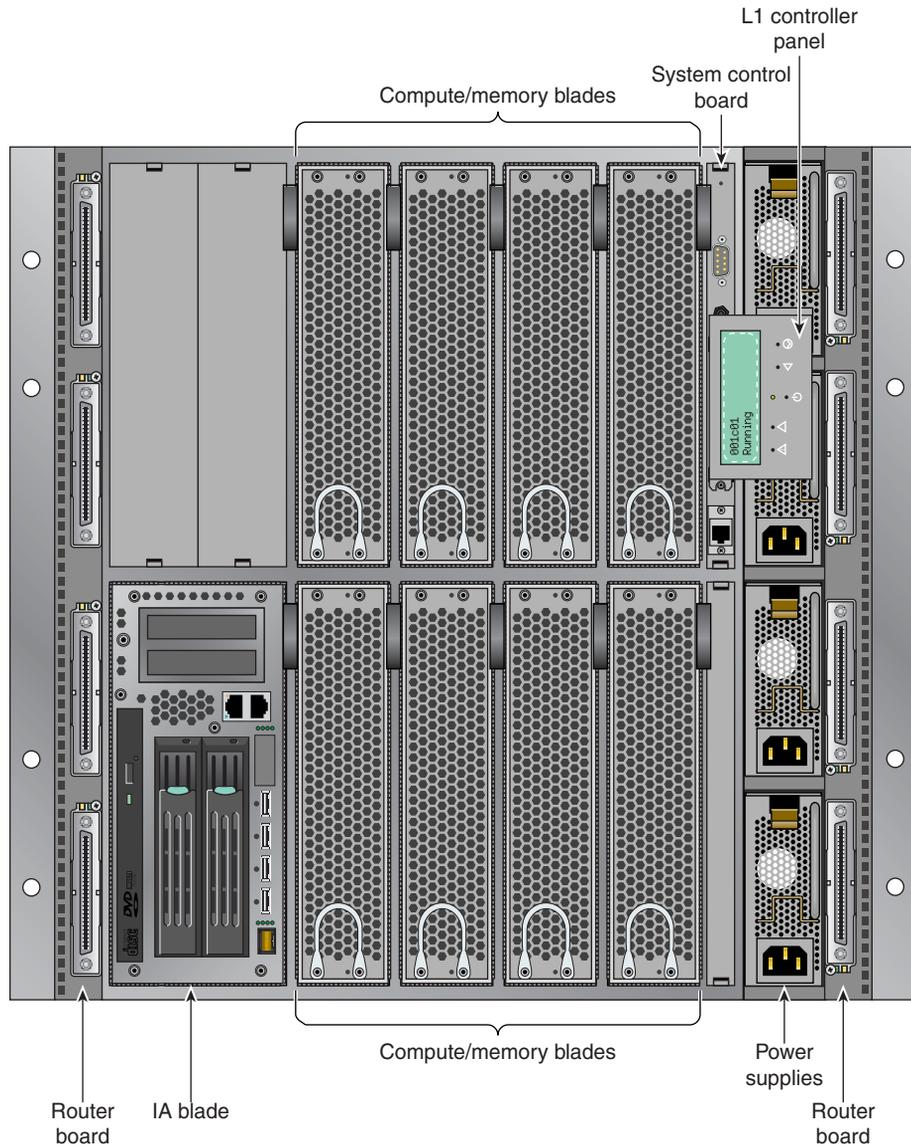

Figure 1-4 IRU L1 Controller Display Location Example
- On the L1 controller's display at the front of each IRU as shown in Figure 1-4, you can monitor system operational status. For example, you can monitor error messages that warn of power or temperature values that are out of tolerance.